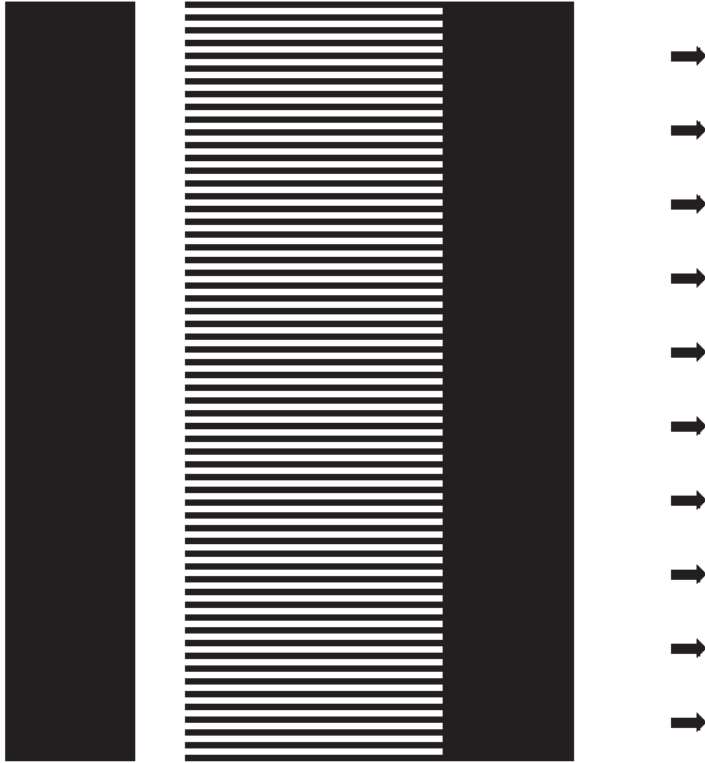

Figure 1
*The **Ready** LED begins to flash and the Printer takes several minutes to plot the calibration plot (see Figure 1). The Printer ejects the sheet, and the **Load Media** LED lights up.*